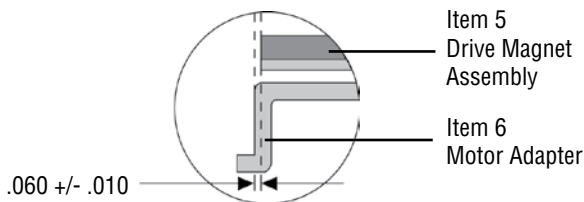

Figure 1
3. Install motor adapter (item 6) onto motor with labels at top using items 10 and 11.
4. Remove drive mag assembly (item 5) from box and slide assembly onto motor shaft making sure shaft key (item 12) is in place. Installation dimension is .060 +/- .010 inches as shown in Figure 1. Tighten 2 set screws (item 5A) to 228